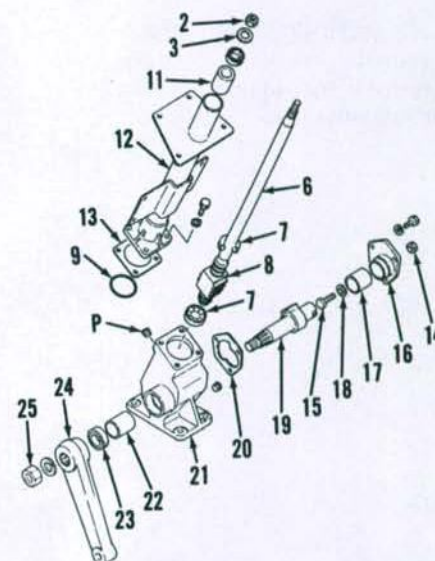
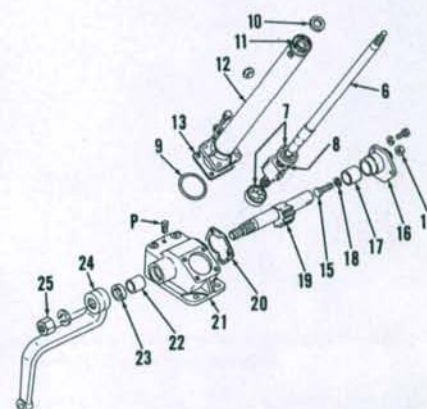

Fig. 5—Exploded view of steering gear typical of type used on YM135, YM135D, YM155, and YM155D models.
Fig. 6—Exploded view of steering gear typical of type used on YM195, YM195D, YM240, YM240D, YM330 and YM330D models. Refer to Fig. 5 for legend.
11. **OVERHAUL.** Remove cap screws attaching side cover (16-Fig. 5 or Fig. 6) to housing (21), remove locknut (14), then turn adjusting screw (15) in to push cover away from housing. Loosen nut (25) and turn shaft (6) until gear on shaft (19) is aligned with opening in